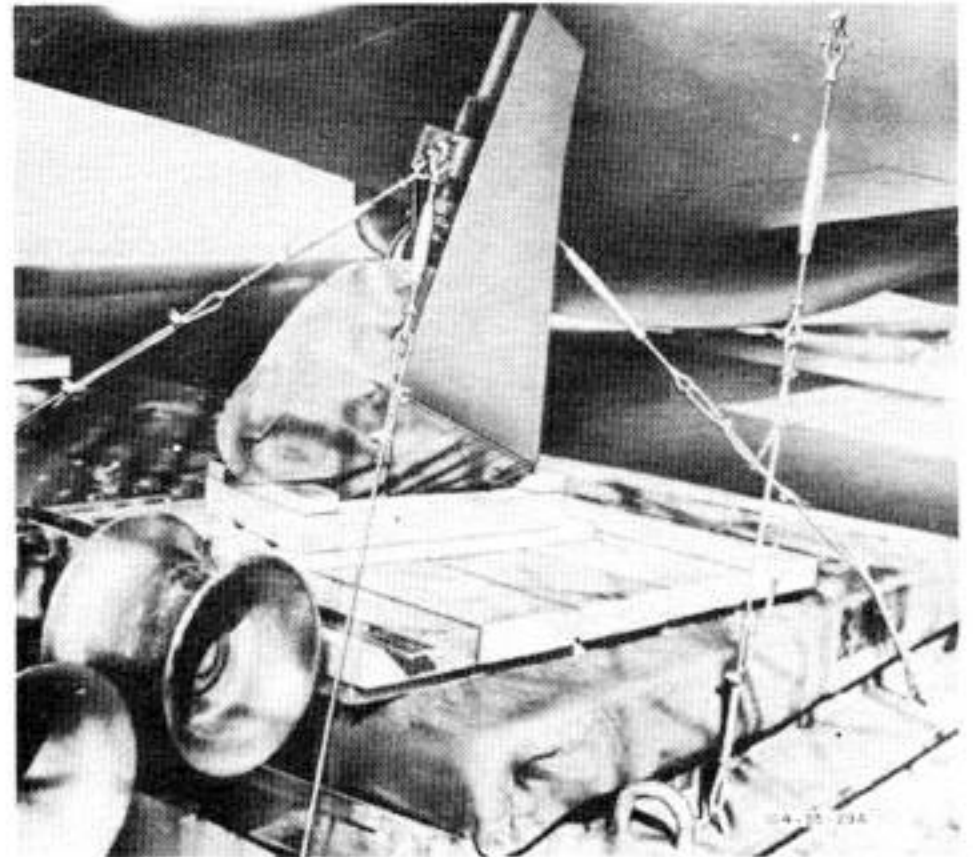

Figure 40—Lashing at Main Gear and Wing
6. Lash the main wheels to the deck. (*See figure 40.*)
7. Lash the wing to the deck. (*See figure 40.*)